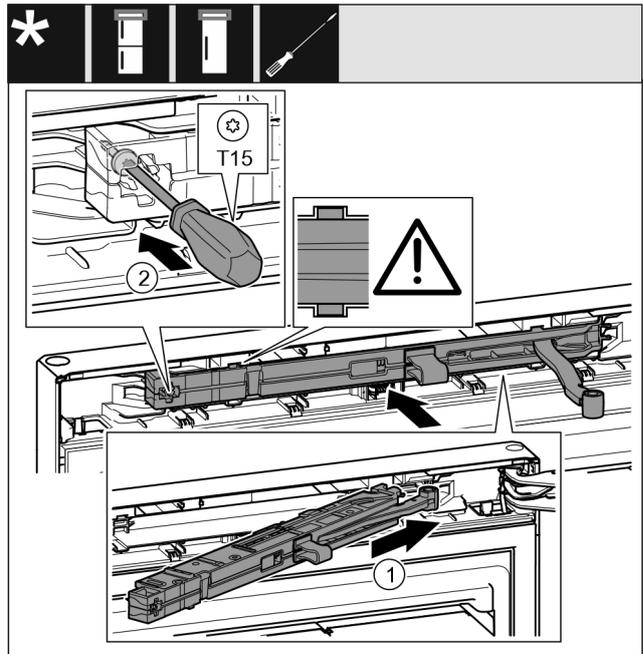

Fig. 55
- ▶ On the swap bearing block side, slide the closing damper unit Fig. 55 (1) into the recess at an angle up to the stop.
- ▶ Use a screwdriver to tighten the screw Fig. 55 (2).